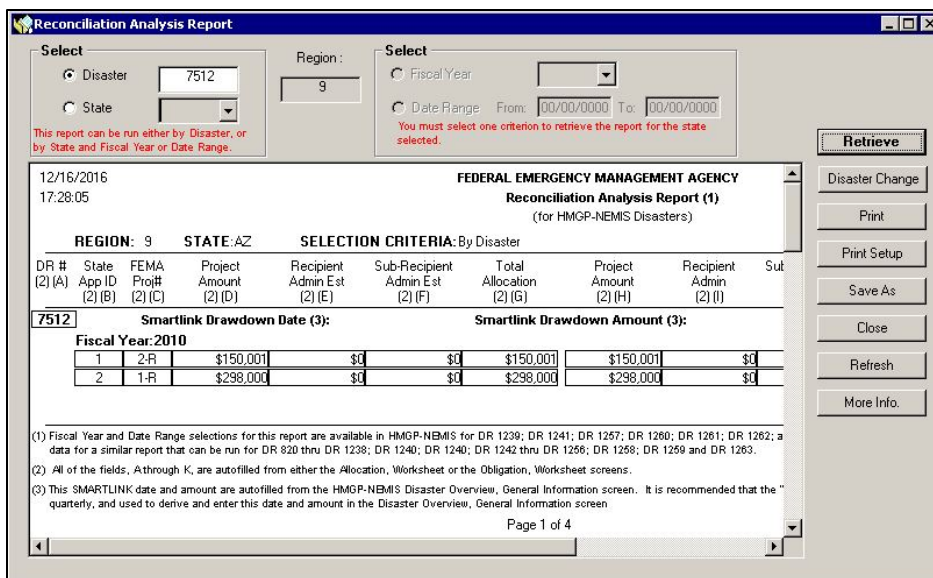

Figure 14-14: Generated Financial Reconciliation Analysis Report
- d. Click the RETRIEVE button. The generated Reconciliation Analysis Report is displayed (Figure 14-14).